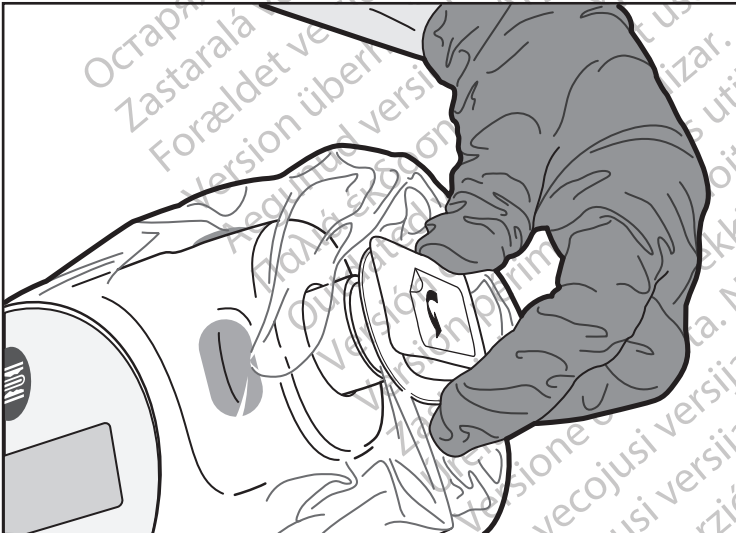
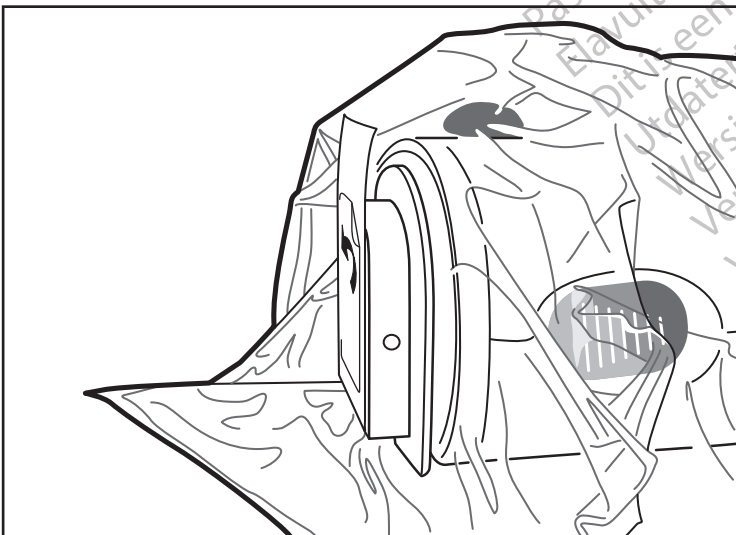

Figure 7. Attaching the Faceplate
Figure 8. Attached Faceplate
- To attach the bag to the MDU5 PLUS Motordrive Unit, the sterile operator should align the bag's faceplate with the nose of the MDU5 PLUS Motordrive Unit (Figure 7), and gently push to secure the connection. Do not trap material between the faceplate and the nose. Extra bag material around and beyond the connection is normal (Figure 8).